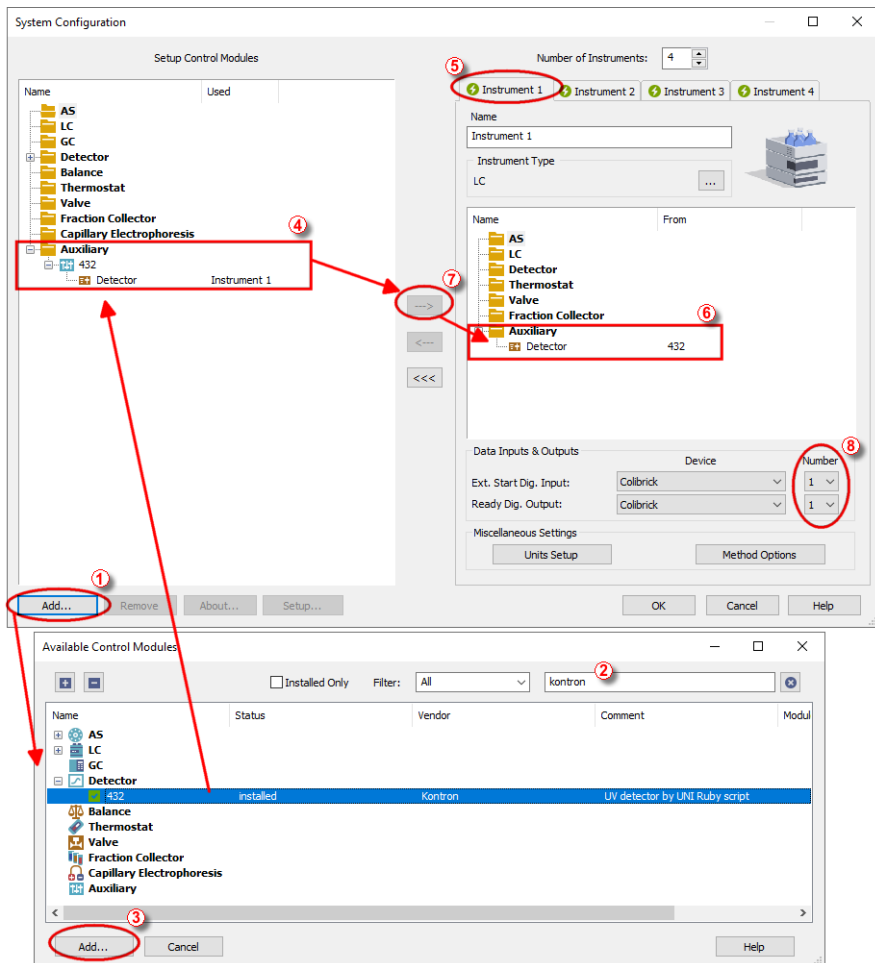

Fig 3: How to add Kontron 432 control module
- Press the **Add** button (1) on Fig 3 on pg 4.) to invoke the **Available Control Modules** dialog.
- You can specify the search filter (2) to simplify the finding of the driver.
- Select the correct item and press the **Add** (③ on **Fig 3** on pg 4.) button. Each device with already created UNI profile should have its own item named accordingly in the **Available Control Modules** dialog.